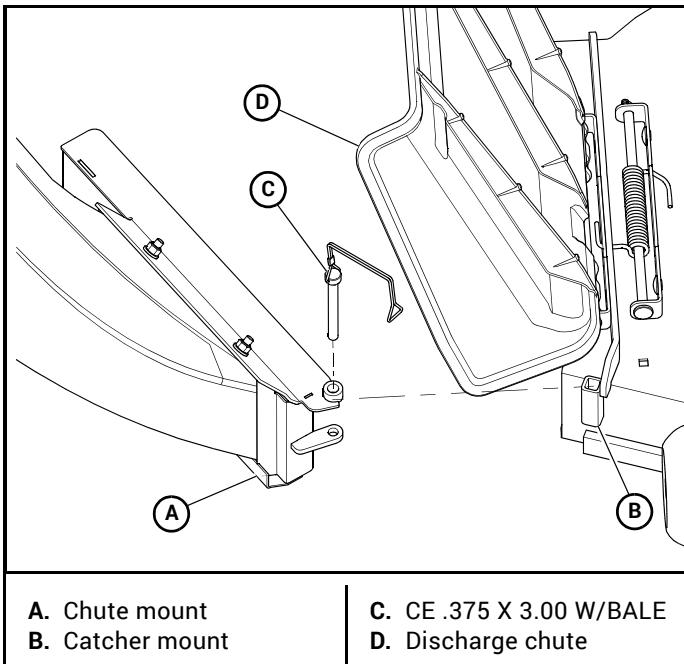

Figure 3-11
15. Raise the deck discharge chute to the full up position and slide the outlet tube into position. Attach the front of the chute mount to the deck with the hardware provided. Figure 3-11